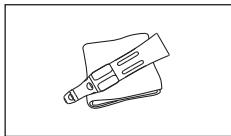

Fig. 12
- 3) Wipe the exterior of the handpiece clean using a cloth moistened with disinfectant or ethanol with a concentration of 60-90%. (Fig. 12)